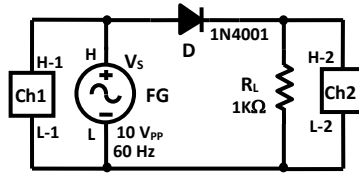

Figure 16: Unfiltered Half-wave Rectifier
- 1- Construct the circuit shown in Figure 16 by using **1N4007 Si** diode.